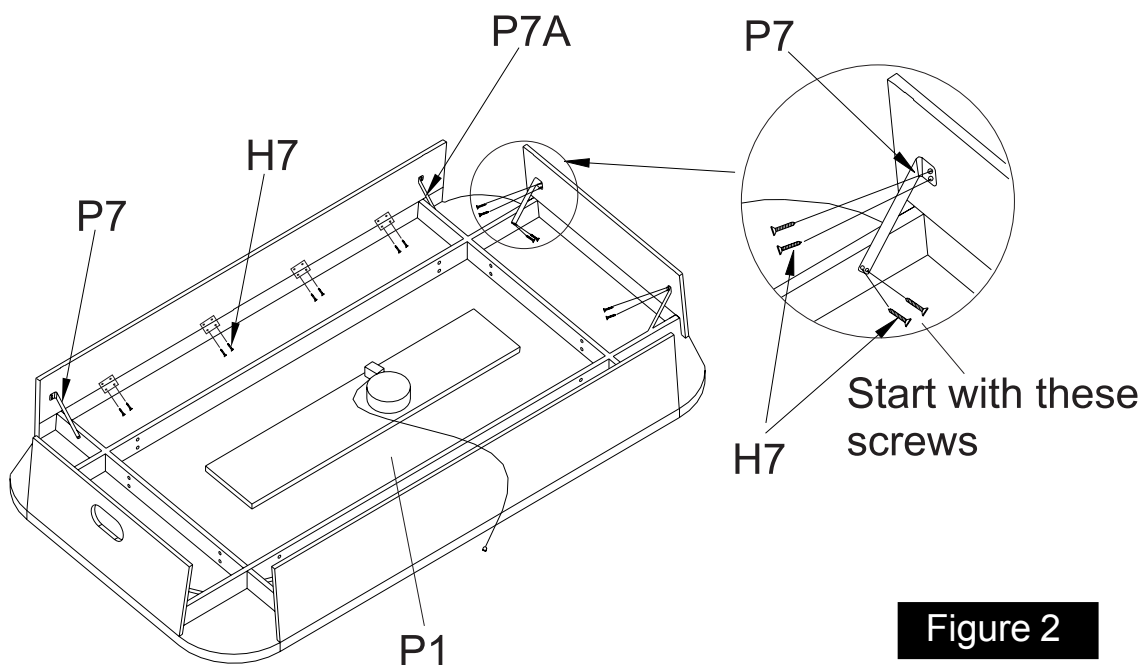

Figure 2
4. Attach the eight apron supports **P7** and **P7A** between the table frame and the apron using screws **H7** as shown in **Figure 2**. There will be one **P7** and one **P7A** on each apron.